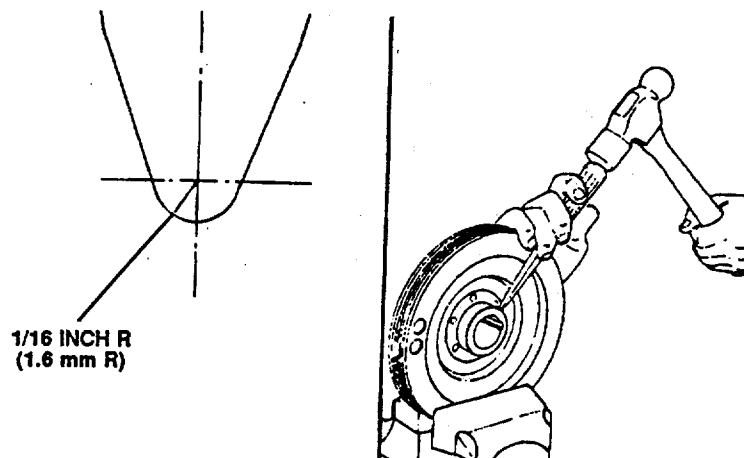

FIGURE 3-36. *Relieving Press Fit on Wear Sleeve.*
- (1) Put the flat pulley (14) in a vise.
- (2) Grind a 0.062 inch (1.57 mm) radius on the cutting edge of a 0.75 inch (19.05 mm) chisel.
- (3) Put the chisel against the wear sleeve. Use a hammer to strike the chisel at four points on the outside diameter of the wear sleeve to relieve the press fit (Figure 3-36).